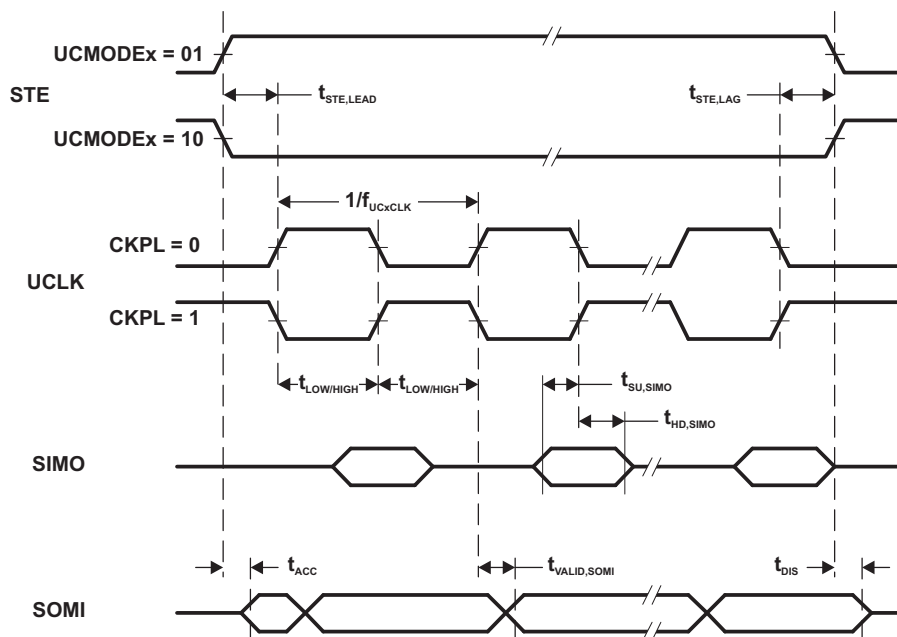
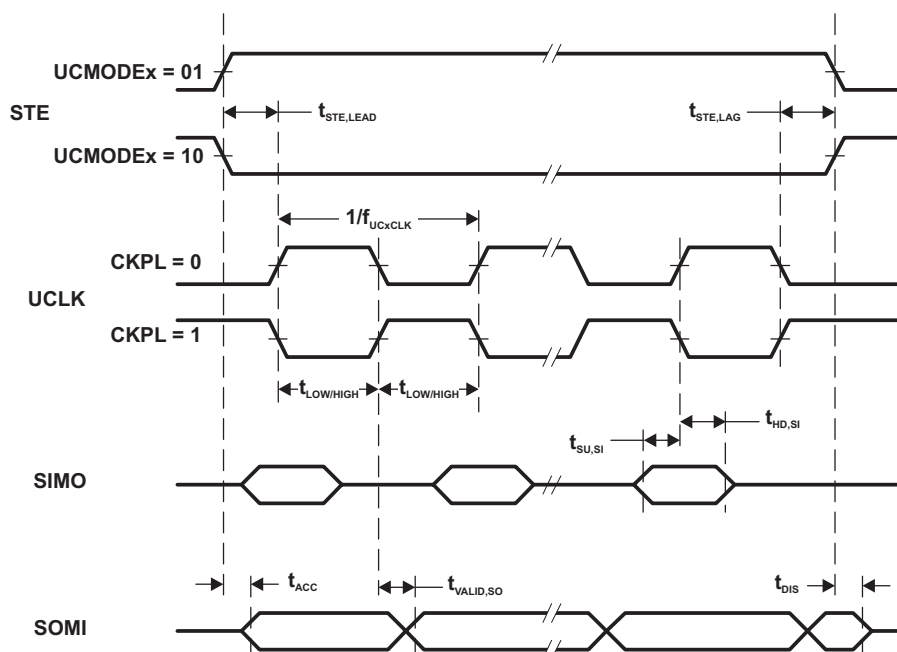

Figure 15. SPI Slave Mode, CKPH = 0
Figure 16. SPI Slave Mode, CKPH = 1
(2) Specifies the time to drive the next valid data to the SOMI output after the output changing UCLK clock edge. See the timing diagrams in Figure 15 and Figure 16.
(3) Specifies how long data on the SOMI output is valid after the output changing UCLK clock edge. See the timing diagrams in Figure 15 and Figure 16.